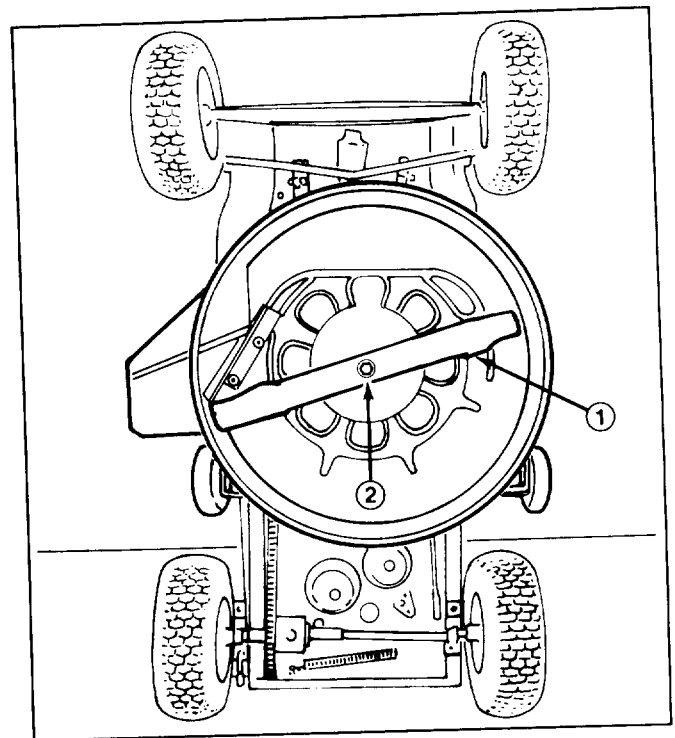

Figure 15
6. Grasp end of blade using a rag or thickly padded glove; then remove blade bolt, washer and blade (Fig. 15).
9. In sequence, reinstall blade, washer and blade bolt (Fig. 15). Tighten blade bolt to 45-60 ft-lb (61-81 N·m).
6. Remove grass clippings and dirt that are sticking to inside of housing (Fig. 15) by spraying with a garden hose. Scrape out grass and dirt that water does not remove from housing; then spray housing again.
7. Since rider is tipped on end, check condition of blade (Fig. 15).